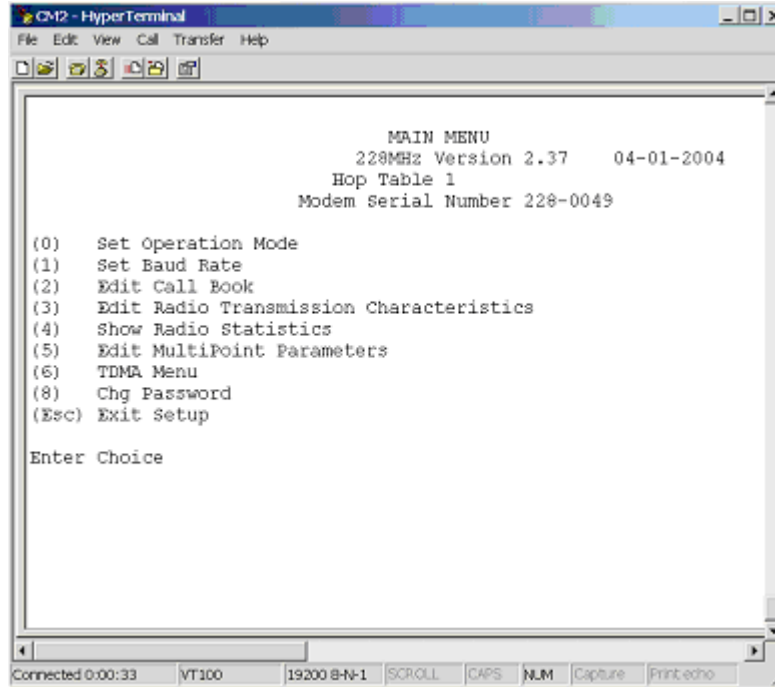

Figure 1
To access the Hop Frequency setup page, navigate through HyperTerminal by selecting (3) Edit Radio Transmission Characteristics, from the Main Menu. See Figure 1.